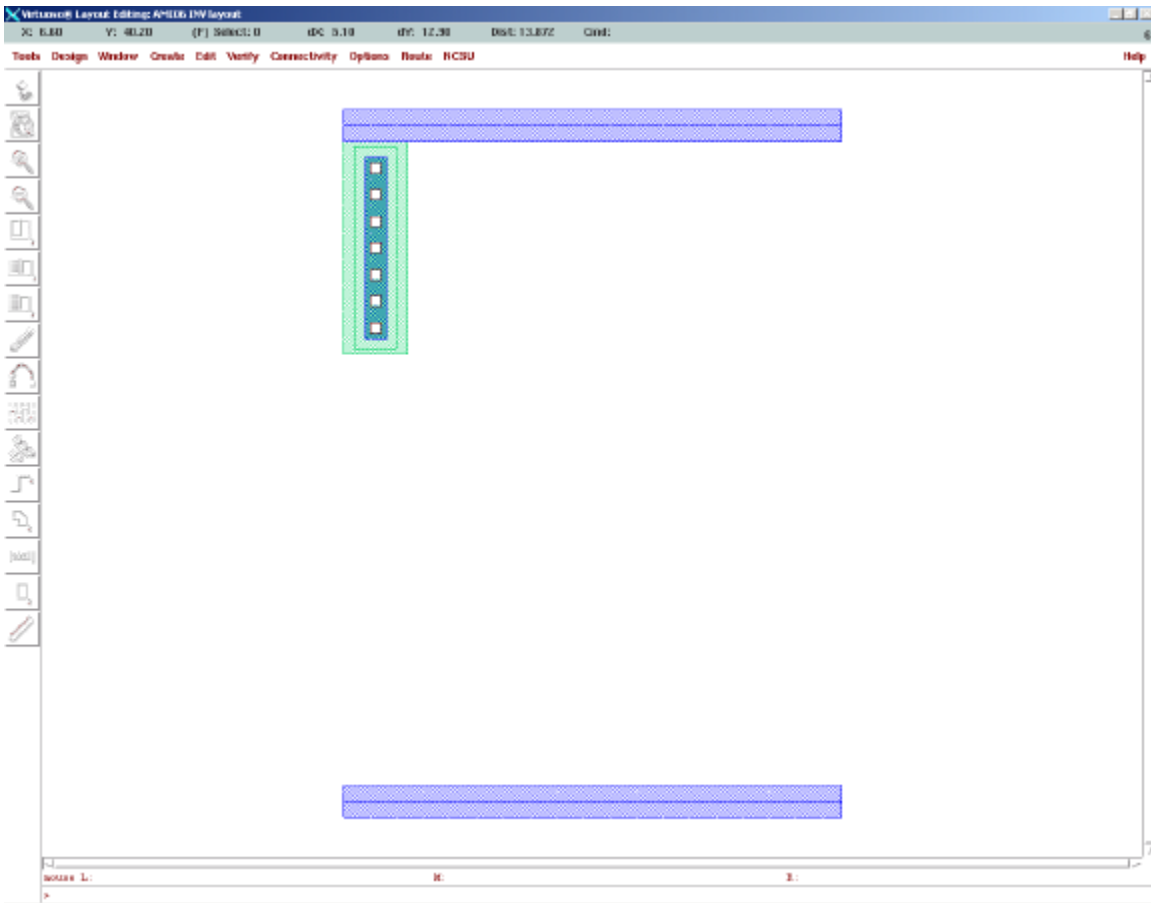

Figure 69: Placement of the ntap.
6. Stamp down the ntap so that the upper left corner is aligned with the lower left corner of the VDD line as in Figure 69.